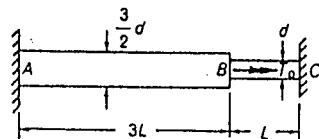

Fig. P6.96
6.96. Shafts *AB* and *BC* are made of different materials and unstressed when welded together at *B* as shown in Fig. P6.96. The twisting couples at *A* and *C* are equal in magnitude when the couple T_0 is applied at *B*. Determine the relation between the elastic moduli of the two materials.